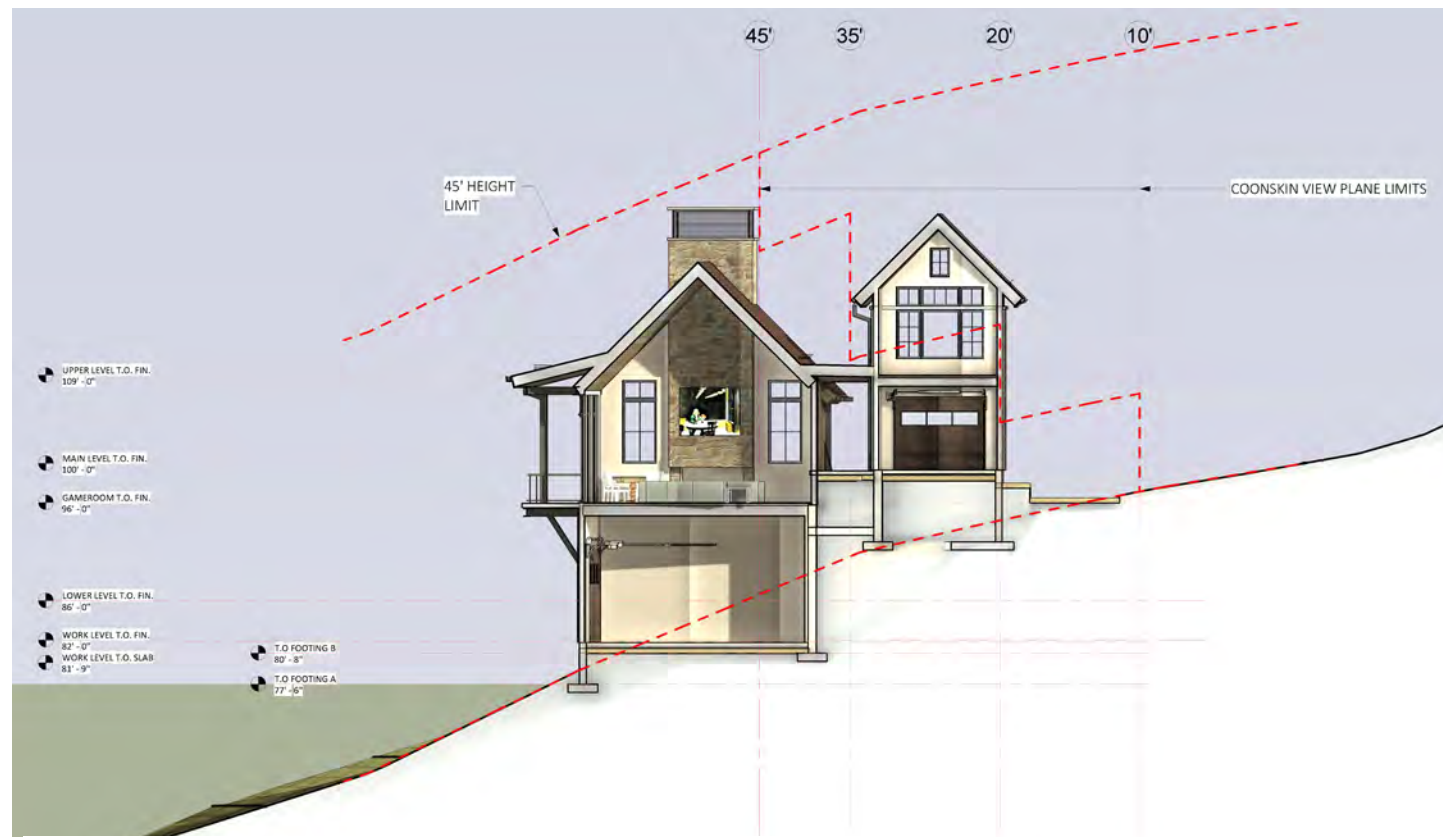

Figure 2. Coonskin View Plan Cross-Section
4. Except for the existing building on Lot 161A-1R and gondola facilities, the development of ridgeline area lots shall be designed to ensure that no lighting or any part of any building or structure extends into the view plane as shown on the Coonskin View Plane drawing recorded at reception number 328113. **The only part of the building that extends into the View Plane is the western module above the garage as shown in cross-section view in Figure 2 and on the Design Review Process Plan Set, Sheet A1-0.5c. The Owners are seeking a variance pursuant to CDC Section 17.4.6 to CDC Section 17.5.16(B)(4) and the Coonskin View Plane as discussed below. The only area of the home that projects into the Coonskin View Plane is the office/exercise room located over the garage as shown in Figure 2. The rest of the home is located below the view planes established in the Coonskin View Plane drawing.**